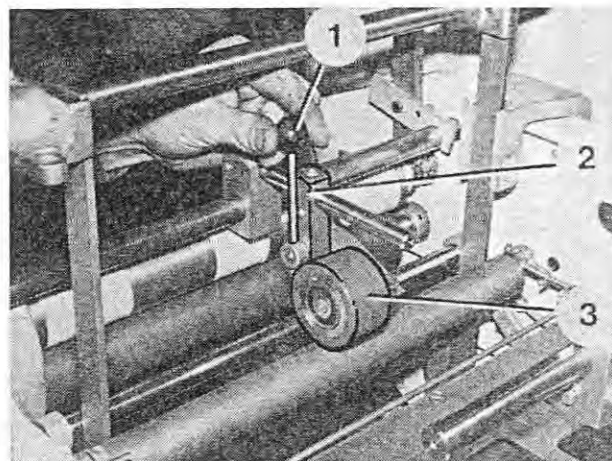

Fig. 93
6. Raise the back stop (Figure 93/3) by reversing the lever (Figure 93/1) up to the rear of the latch (Figure 93/2).